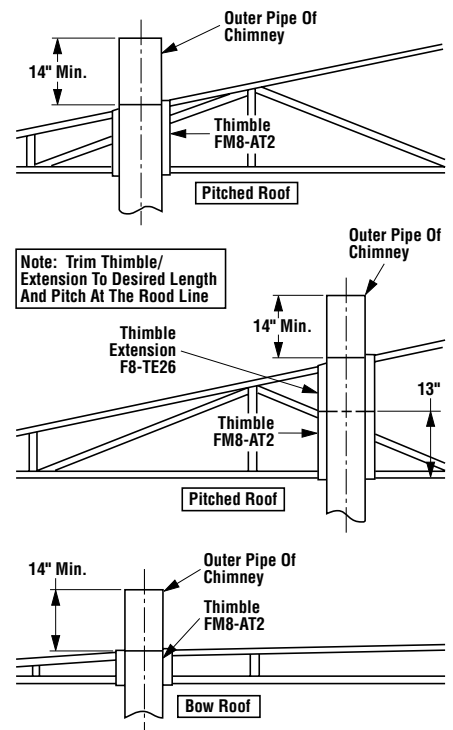

**Figure 18**
**Note:** If there is a room above ceiling level, firestop spacer must be installed on the bottom side of the ceiling. If an attic is above ceiling level, firestop thimble must be installed on the bottom side of ceiling joist (Figures 18 and 19).